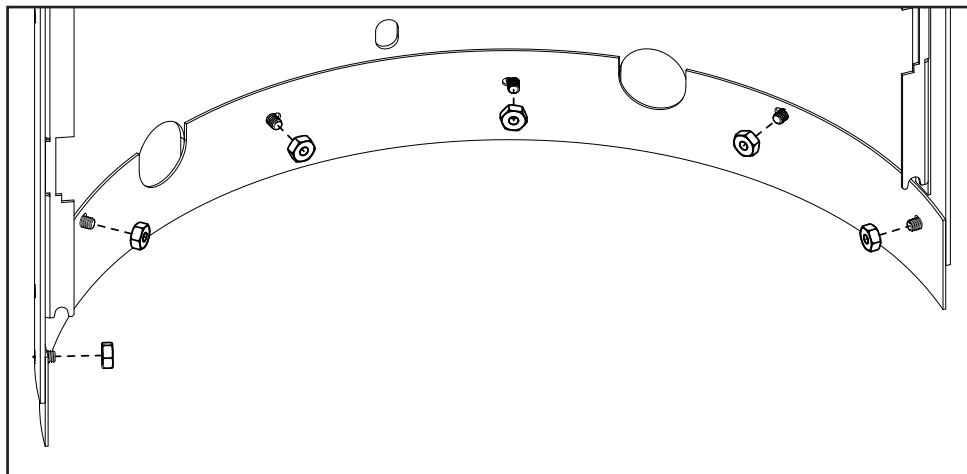

Figure 30: Rear Skirt Removal
Remove the six (6) nuts retaining the rear skirt using a 3/32" (or 9mm) socket (see Figure 30).